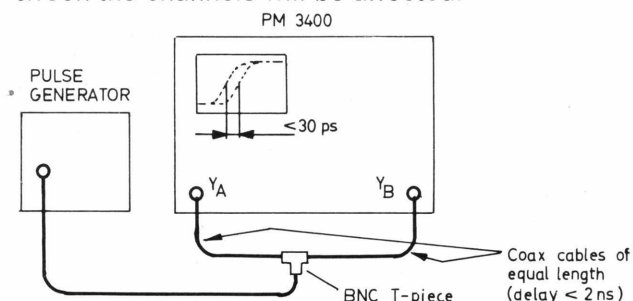

Fig. XI-7 Instrument set-up for measurement of time interval between channels
- Pulse Generator Type 284 to inputs P5A, Y_A, and P5B as shown in Fig. XI-7. Ensure that the two cables between the T-piece and the oscilloscope inputs are of equal length.